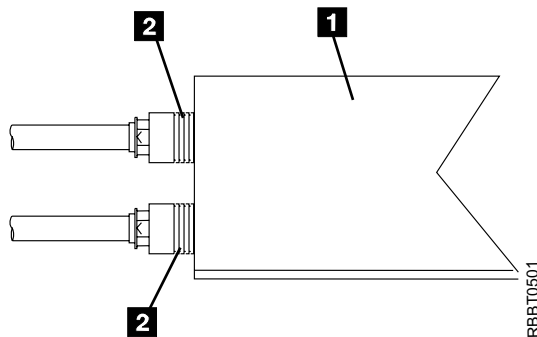

Figure 3. Connecting the SCSI Bus Cable to the 7210 DVD-RAM Drive. The view is from the side.
2. ___ On the rear of the 7210 DVD-RAM Drive (**1** in Figure 3), insert the device connector end of the SCSI bus cable into one of the SCSI connectors **2**.